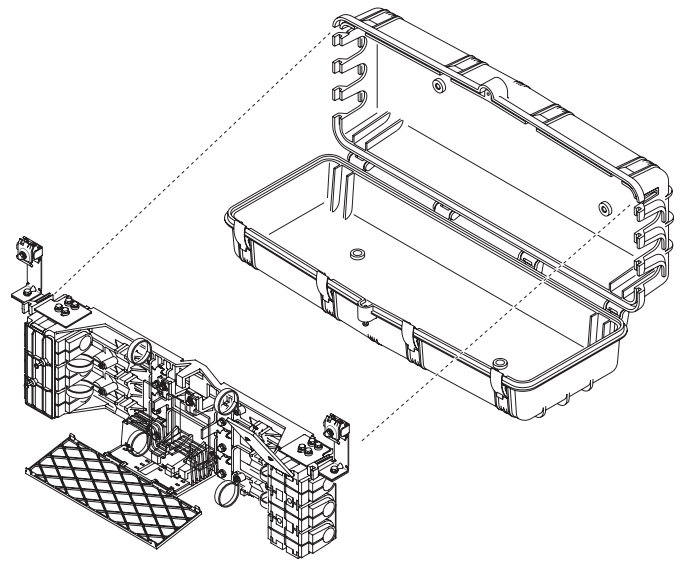

FIGURE 17—Positioning Cover on Frame.
- 10.01** Position cover as shown in Figure 17 and slide onto frame assembly. Insure that all grommets on cable entry and exit ports are fully seated and that grommets on strand hanger align and seat properly into cover assembly.